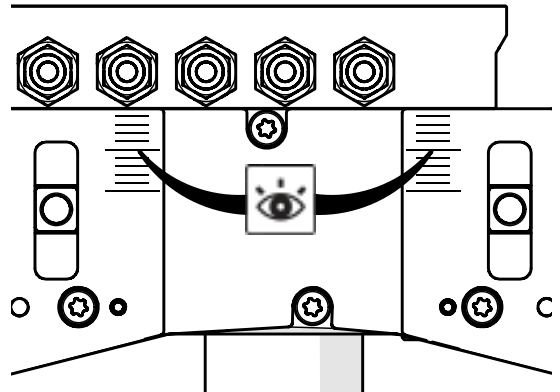

Fig. 154 - Markings for probe holder frame positioning
5. Markings are provided on the carriage to assist with positioning the probe holder frame (*Fig. 154*).